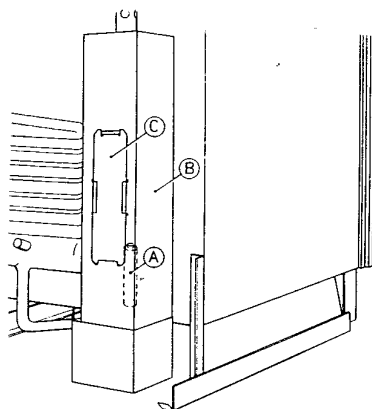

Fig. 47
On the gas/electric operated refrigerators heat is supplied by an electric heater (A) mounted on the cooling unit inside the insulated cover (B). See fig. 47.